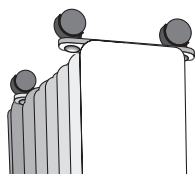

fig. 1
- The feet with the casters must be fitted with two arc-shaped brackets and fit them using the threaded bar and wing nut provided, only between the 1st and 2nd element and the second to last (see fig. 1 to 3 inclusive).